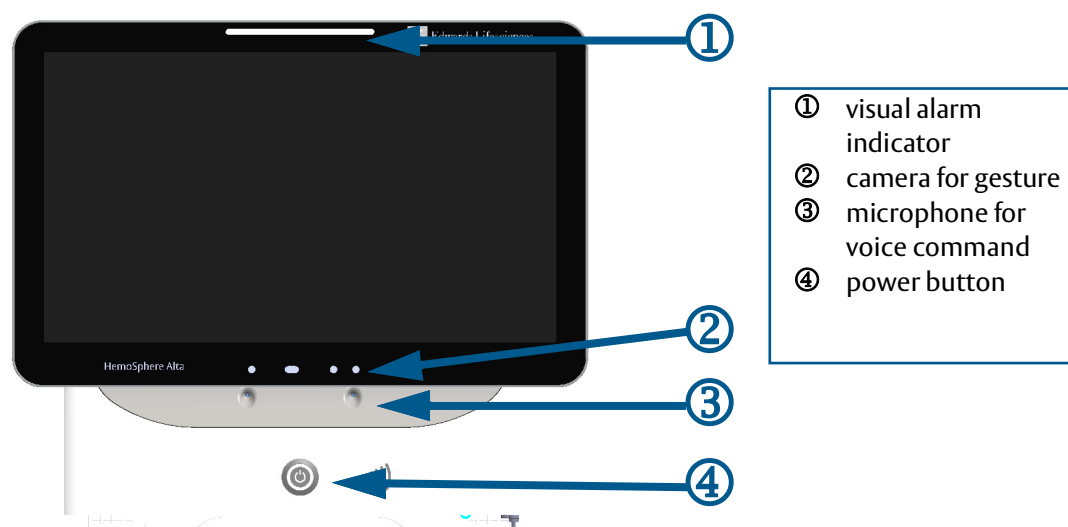

Figure 3-1 HemoSphere Alta advanced monitor front view
To power the monitor off, touch the power button. See ② in Figure 3-1 on page 70. The following options will be displayed: